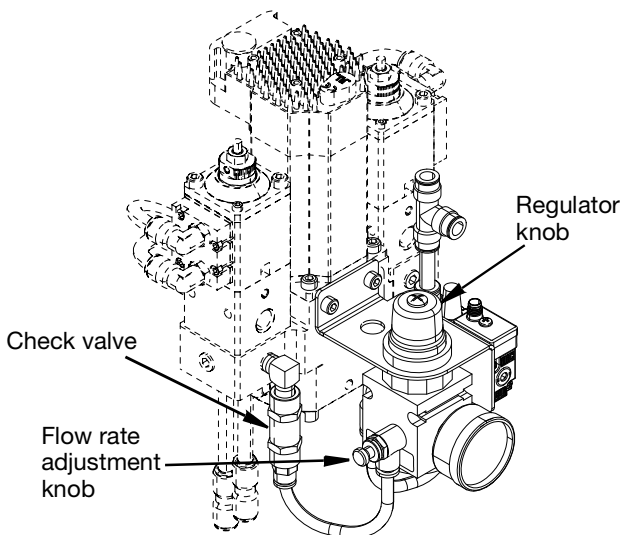

FIG. 28
- Adjust the flow rate by turning the flow rate adjustment knob clock-wise to increase flow or counter clock-wise to decrease flow. See FIG. 28.